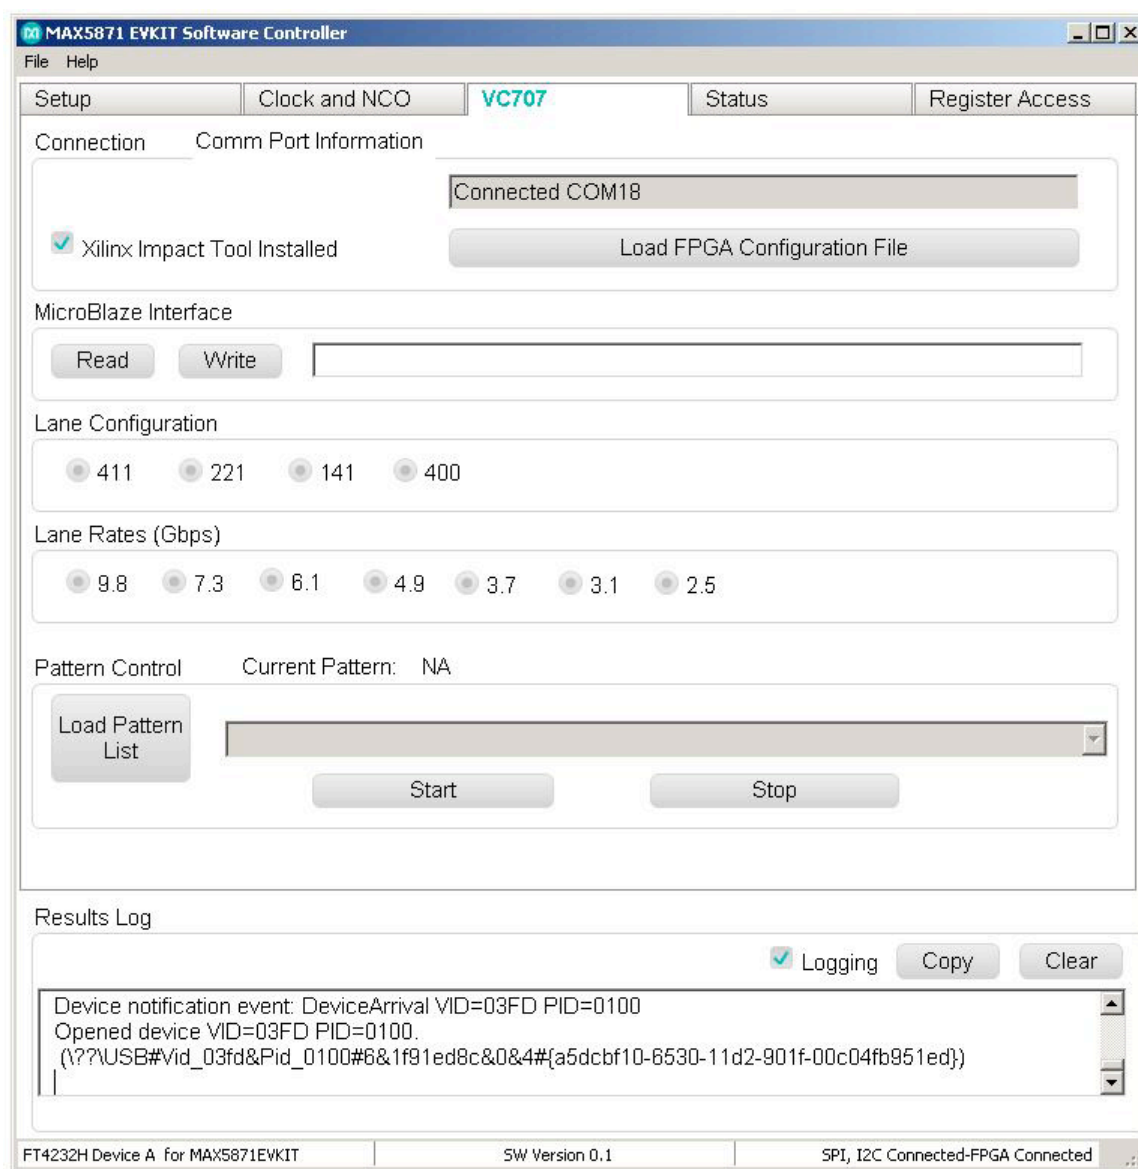

Figure 2. New Device Arrival
- h. The arrival of the new device will appear in the Log window located at the bottom of the GUI as highlighted in Figure 2.
- iii. After loading, the GUI should look like Figure 2, above.